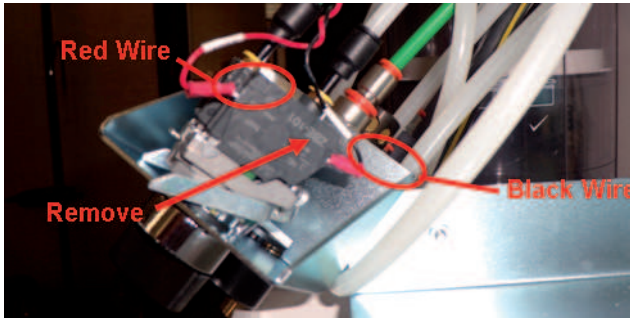

Figure 97 - Location of Microswitch
8. Remove the microswitch, indicated in Figure 97. Note the wire orientation when reinstalling the microswitch.